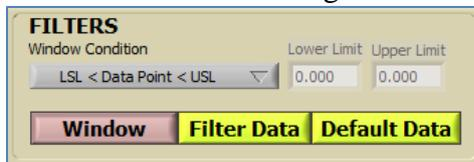

Figure 2.1.2-2: The Window Condition Filter
The Window Filter (Figure 2.1.2) compares the searched data with a specified interval and retains only the points which meet the specified condition. Please note that to switch from the Window Filter to the Single Point Filter, click the **Single Point** button (Figure 2.1.2-2).
1. Select the desired Window Condition. The boundary values can be inputted or specified by the data's recipe specifications (Figure 2.1.2-1)